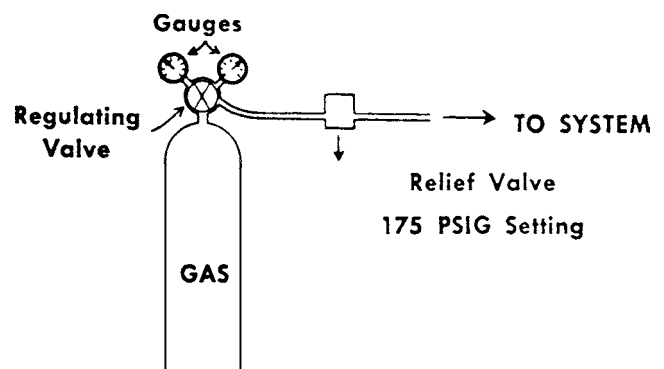

Fig. 12-1 Pressurizing set-up for charging refrigeration systems.
- A system can be pressurized up to a *maximum* of 150 psig for leak testing or purging. See Fig. 12-1.